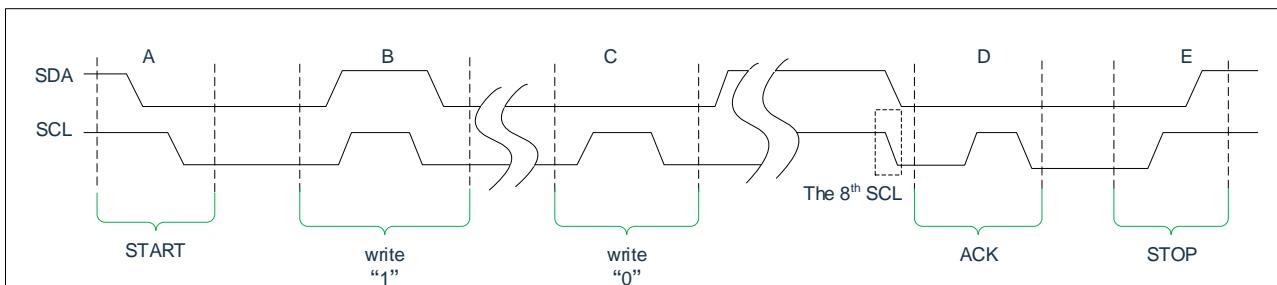

Figure 2-1: CMS1650S communicate protocol
- Start signal: a transition of SDA from a high to a low state while SCL is high. Such as (Figure 2-1) paragraph A.
- Stop signal: a transition of SDA from a low to a high state while SCL is high. Such as (Figure 2-1) paragraph E.
CMS1650S will actively pull SDA down after the falling edge of the 8th clock of serial communication, if this communication is correct. Until the rising edge of SCL is detected, SDA is released to the input state (for chips), such as (Figure 2-1) paragraph D.
- Write “1”: SCL from a low to a high state and then from a high to a low state while SDA is high. Such as (Figure 2-1) paragraph B.
- Write “0”: SCL from a low to a high state and then from a high to a low state while SDA is low. Such as (Figure 2-1) paragraph C.